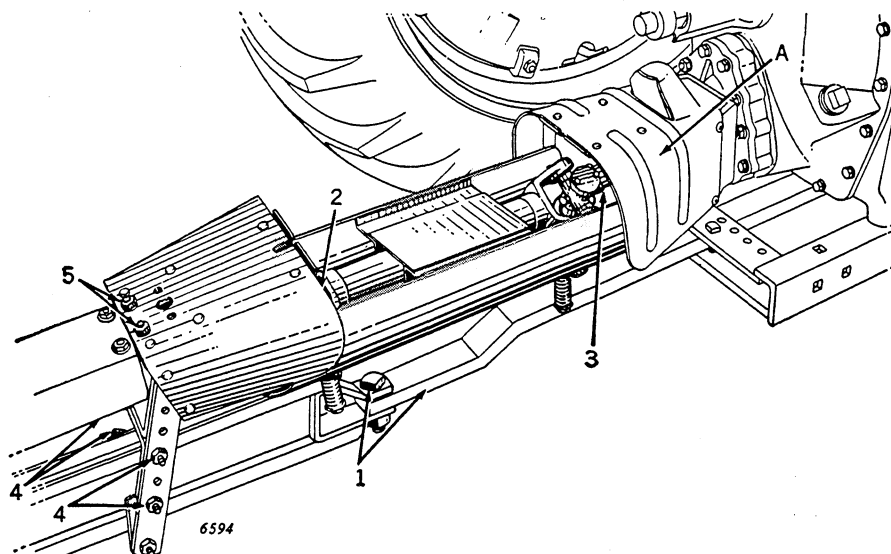

Figure 89
1. (Figure 89) Adjust tractor drawbar so it conforms to settings established by standardization program. (See Pages 62 and 63.) If such dimensions cannot be obtained on tractor, it will be necessary to order conversion parts from **tractor manufacturer**. Be sure tractor drawbar is rigidly secured in a position directly below power line. Connect Binder to tractor.
2. (Figure 89) Remove tape around key in front end of telescoping pipe for power drive. Remove cap screw, lugged lock washer and notched retaining washer from front end of telescoping pipe. Slide rear universal joint onto front end of telescoping pipe and replace notched retaining washer, lugged lock washer and cap screw. Be sure to fit bent lug on lock washer into notch in retaining washer and to bend remaining lugs on lock washer over head of cap screw.
3. (Figure 89) Slide front splined universal joint onto take-off shaft and secure in place with clamp bolt.
4. (Figure 89) Adjust the height of power shaft front bearing as shown.
5. (Figure 89) Bolt power shaft shield to rear set of holes in power shaft front bearing housing.
- L. **Tractor must have a master shield to which connecting shield (supplied by Implement Manufacturers) can be attached.** (See "A," Figure 89.)